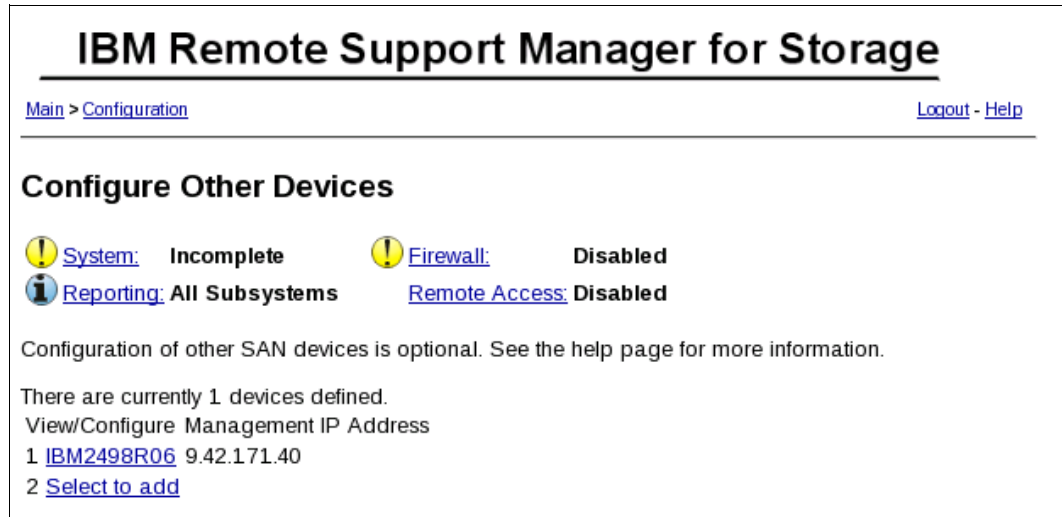

Figure 16-24 RSM Add other SAN Devices continued
20. The newly added SAN Device is now added as shown Figure 16-24 on page 502.